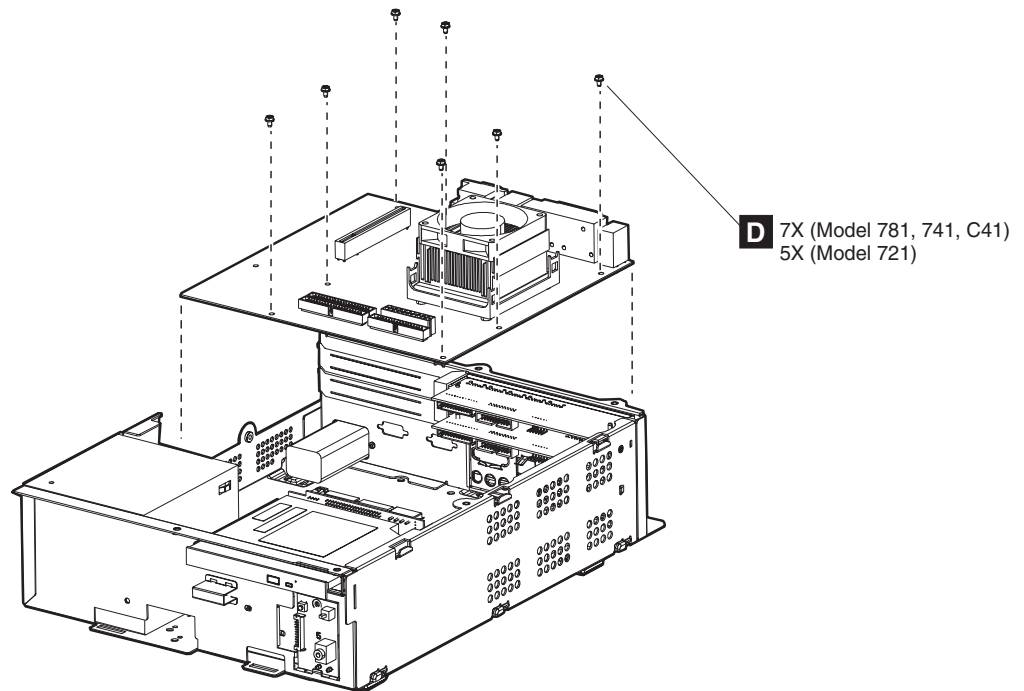

Figure 45. Planar location
8. See Figure 45. Locate and remove the screws from the planar board (**D**). Model 721 has five screws. Models 7x2, 74*, and 78* have seven screws.